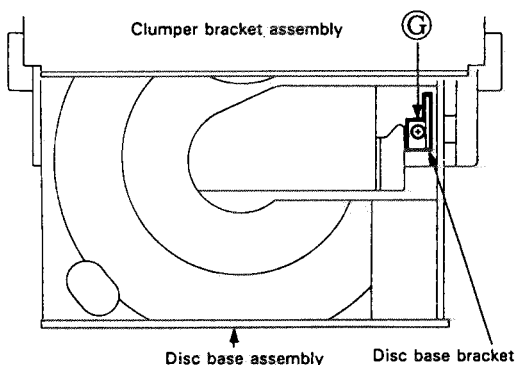

Fig. 7
4. Remove a screw ③ securing the disc base bracket visible from notched window of the disc base assembly. (Refer to Fig.7)